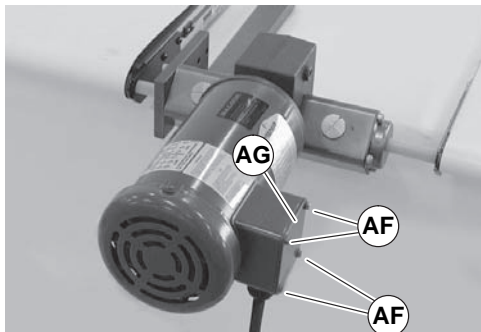

Figure 40
- a. Loosen terminal box screws (Figure 40, item AF) and remove cover (AG).